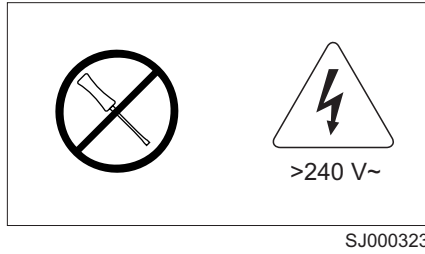

Figure 3. Power supply cover caution label
3. Verify that the power supply cover caution label shown in Figure 3 on page xvi is installed on the switch's power supply.